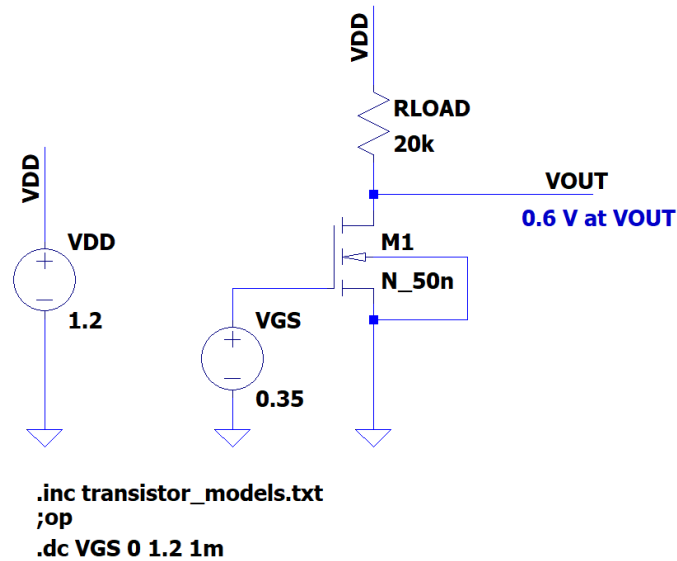

Figure 2.3 Simple CS amplifier schematic
Before we get into designing, let's first appreciate how a simple CS amplifier works. *You can't design anything without studying what needs to be designed.* Figure 2.3 shows a pre-built CS amplifier with $W = 10 \mu m$ and $L = 1 \mu m$. Let's also assume that we've pre-determined that $V_{GS} = V_{IN} = 0.35 V$ and $V_{DS} = V_{OUT} = 0.6 V$.
- Set $V_{DS} = 0.6 \text{ V}$ because out $V_{OUT} = 0.6 \text{ V}$ (as seen in Figure 2.3)
1. Open the schematic named “lab06_cs_amp.asc”. This is the same schematic in Figure 2.3.